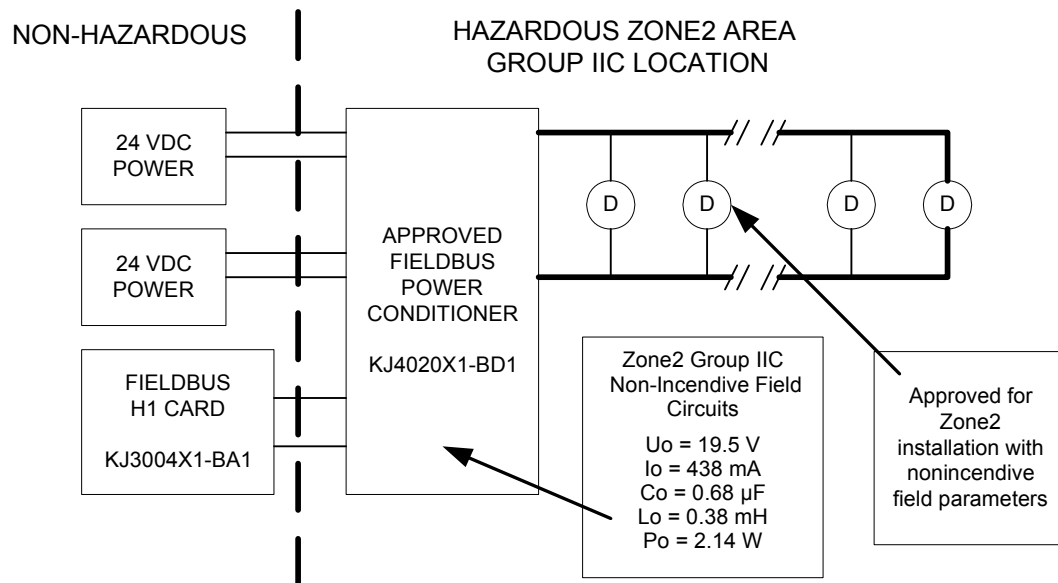

Figure 3 – Fieldbus Nonincendive circuit wiring for KJ4020X1-BD1 Power Conditioner
16. When using a KJ3004X1-BA1 in a safe area and connecting to energy limited field circuits, use the KJ4020X1-BA1, Fieldbus Power Supply Conditioner KJ4020X1-BD1. Please refer to Figure 3.